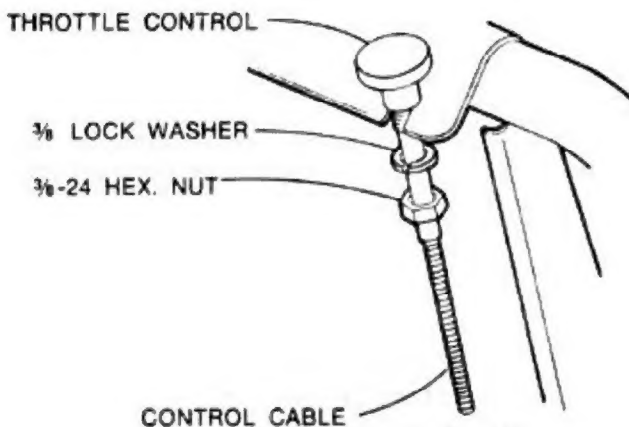

FIG. 4
5. Attach the throttle control to the back side of handle, Fig. 4.